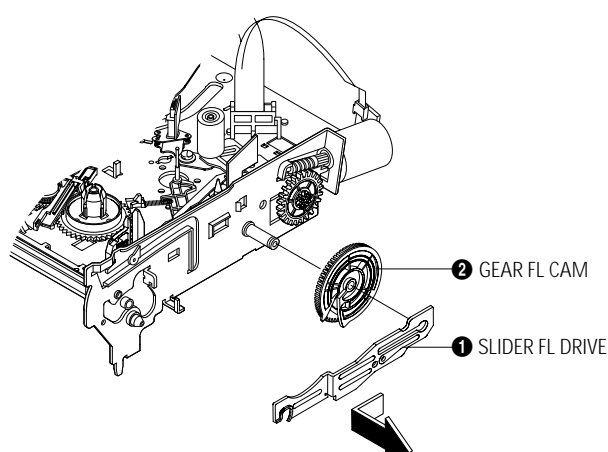

Fig. 4-10 Slider FL Drive Removal
- 1) Pull the Slider FL Drive ❶ to the front direction.
- 2) Remove the Slider FL Drive ❶ in the direction of arrow. (Refer to Fig. 4-10)
- 3) Remove the Gear FL cam ❷.
**Note :** When reinstalling be sure to reassemble Slider FL drive ❶ after you insert the Boss of Lever FL ARM-R in Groove of Slider FL drive ❶.
**Assembly :** Align the Gear FL Cam ❶ with the Gear worm wheel Post as shown drawing. (Refer to Timing point)